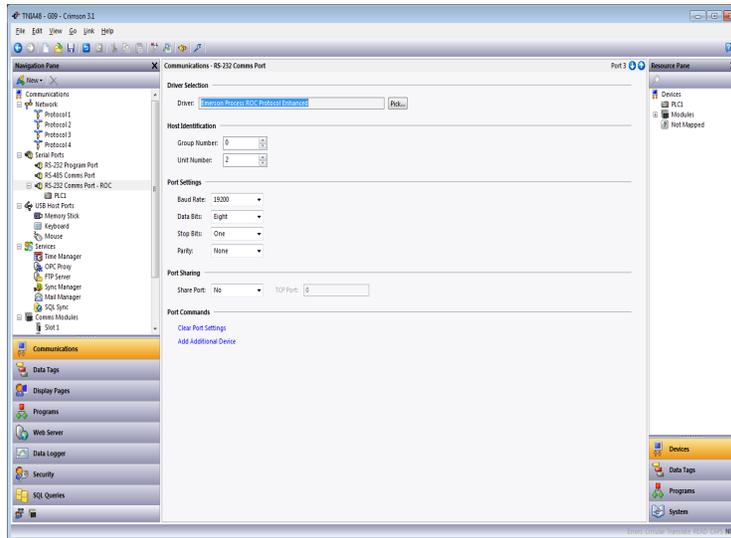

Figure 4.
- Referring to Figure 4, configure the Host Identification section with the Group Number and Unit Number parameters used by the RLC device.